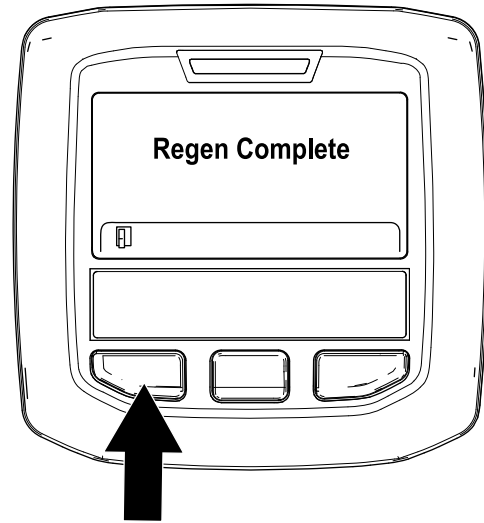

Figure 42
- The parked regeneration is complete when the “Regen Complete” message displays in the InfoCenter. Press the left button to exit to the home screen (Figure 42).